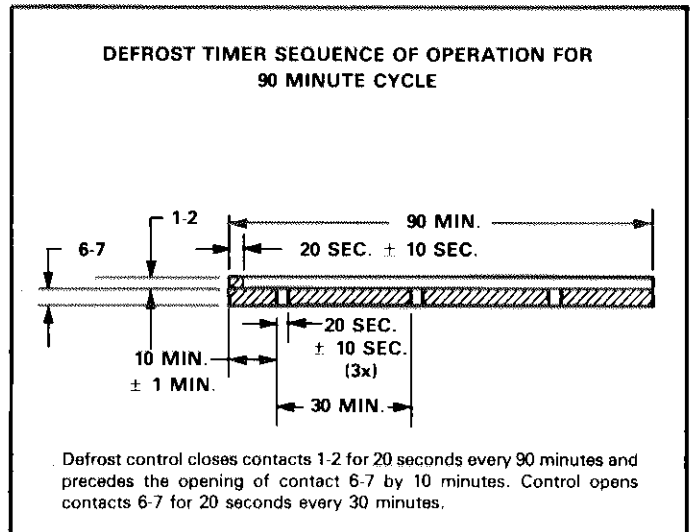

FIGURE 5
This control asks for a defrost every 90 minutes. If the temperature is below 35° F (2° C) and the defrost pressure switch senses a particular pressure differential, the unit will defrost. The defrost timer will not allow a defrost to last more than 10 minutes. The defrost timer can be field adjusted from a 90-minute to a 30-minute defrost interval if warranted by climatic conditions. See figure 5 for sequence of operations and section IX for timer conversion.
A pressure sensor mounted on the division panel between the outdoor coil and the orifice panel senses the build-up of static pressure caused by coil icing across the outdoor coil. Every 90 minutes, if the control diaphragm senses a particular pressure differential, and the defrost thermostat is closed, a defrost cycle is initiated. Defrost cycle is terminated by the defrost thermostat or the defrost timer. If the coil does not rise to termination temperature within the time override period (approximately 10 minutes), the defrost cycle is terminated by the defrost timer. See figure 5 for normal and override operation sequences of the defrost timer.
- 10 - Unit will follow the same sequence of operation shown in figure 5 except defrost interval will be every 30 minutes.